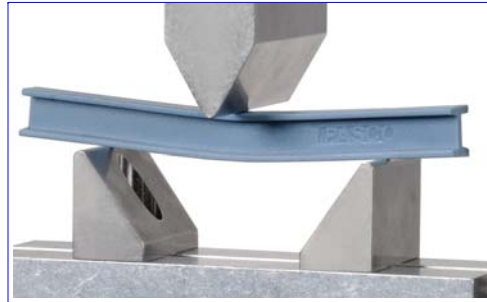

Figure 1. Three-Point Bend Test
A Three-Point Bend Test is performed on plastic beams as shown in Figure 1. As a downward force (F) is applied in the middle of the beam, the flex (Δx) is recorded. The ratio ($F/\Delta x$) is the effective stiffness of the length of beam being tested, and is measured directly from the slope of the F vs. Δx graph. The Flexural Elastic Modulus for the material is then calculated.